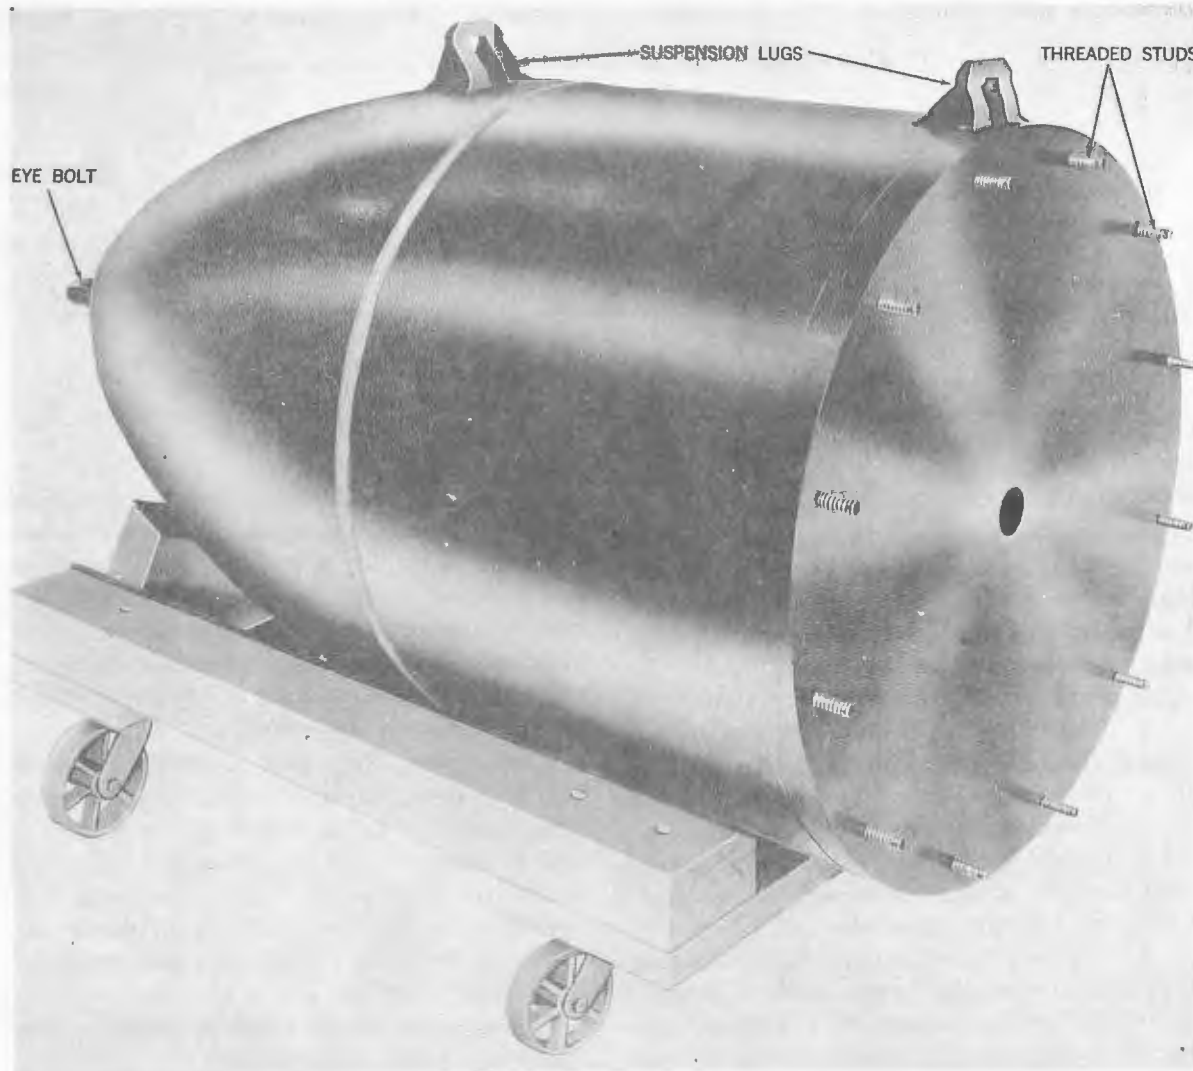

Figure 11-42.—Nose Section.
The nose section, figure 11-42, is a steel shell with an ogive-shaped forward end. A 1½-inch threaded opening for an eyebolt or marker, is located at the apex of the ogive. The shell is 63.27 inches long and 31.34 inches in diameter. Two suspension lugs mounted on 30-inch centers are welded to the top of the middle section of the shell. A solid steel cylinder about 18 inches long and 9½ inches in diameter, is located internally
7. Place the nose section on an H-3045 dolly or equal, with the ogive resting against the pillow block, figure 11-42.